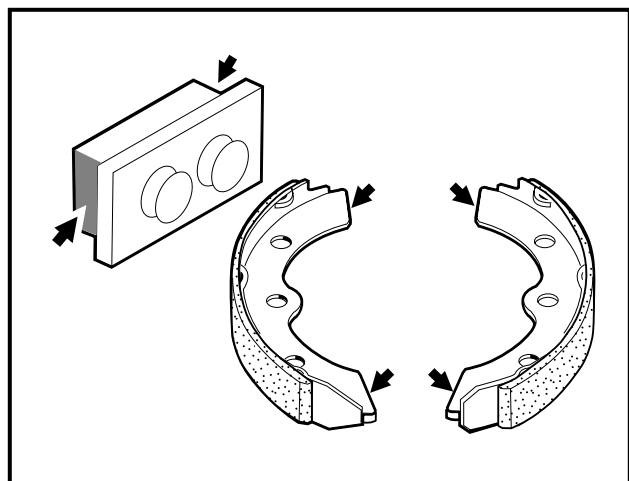

Figure 6-10 Apply Grease To Brake Shoes and Slots
5. Use a small brush to carefully apply a light coat of white lithium NLGI #2 grease (Dow Corning® BR2-Plus or equivalent) to each end of both brake shoes and into the slots in the brake shoe mounting block as shown (**Figure 6-10, Page 6-5**). See preceding **WARNING**.